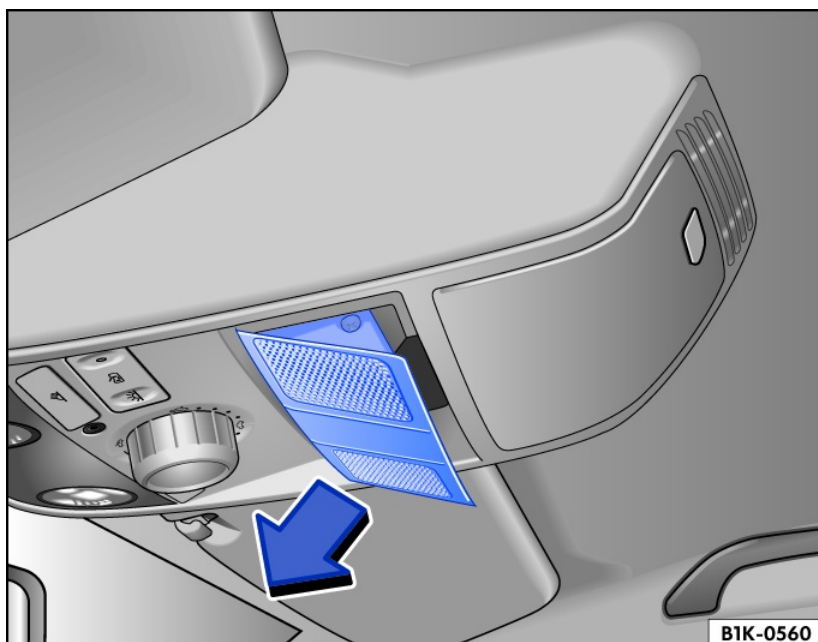

Fig. 57 In the headliner: remove the cover.
1. Remove the cover in the direction of the arrow *fig. 57*.
4. Attach the cover in the opposite direction to the arrow *fig. 57*.